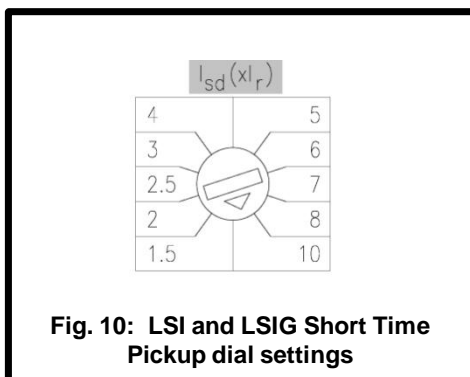

Fig. 10: LSI and LSIg Short Time Pickup dial settings
Circuit breakers with the LSI and LSIg catalog number suffixes have an adjustment to set the Short Time Pickup. Short Time Pickup is an overcurrent protection setting with intentional tripping delay. There are ten (10) Short Time Pickup current settings that range from 1.5 to 10 times the Continuous Current (I_c) setting (see Fig. 10).